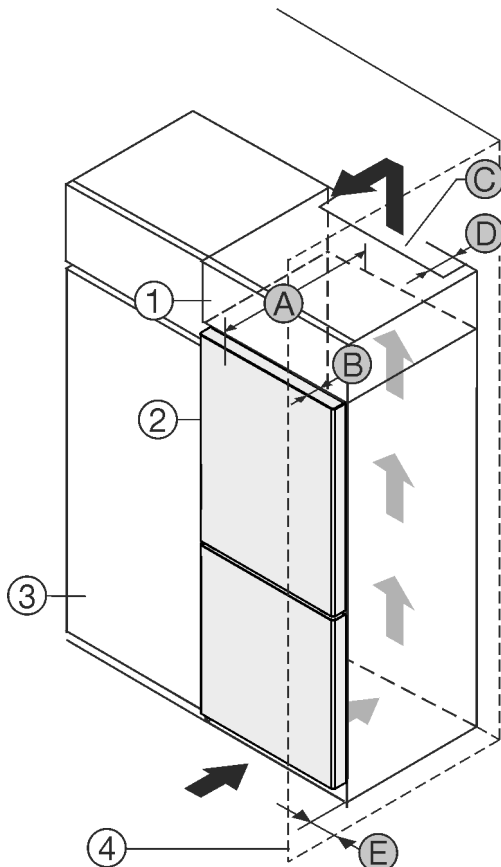

Fig. 1
- (1) Top cupboard*
- (2) Appliance*
- (3) Kitchen cabinet*
- (4) Wall*
- (A) Appliance depth*
- (B) Door depth*
- (C) Ventilation cross-section*
- (D) Distance to the rear of the appliance*
- (E) Distance to the side of the appliance*
Set up the appliance directly next to the kitchen cabinet Fig. 1 (3).*
There must be a ventilation shaft at the depth Fig. 1 (D) of the back of the top cupboard over the entire width of the top cupboard.*
The cross section of the ventilation gap Fig. 1 (C) must be maintained below the ceiling.*
If the appliance is installed with the hinges next to a wall Fig. 1 (4), the distance between the appliance and the wall must be at least 13 mm (0.51 in).*
In order to be able to fully open the door, the appliance must protrude by the depth Fig. 1 (B) of the door from the front of the kitchen cabinet. Regardless of the depth of the kitchen cabinets Fig. 1 (3) and use of wall spaces, the appliance can protrude further.*